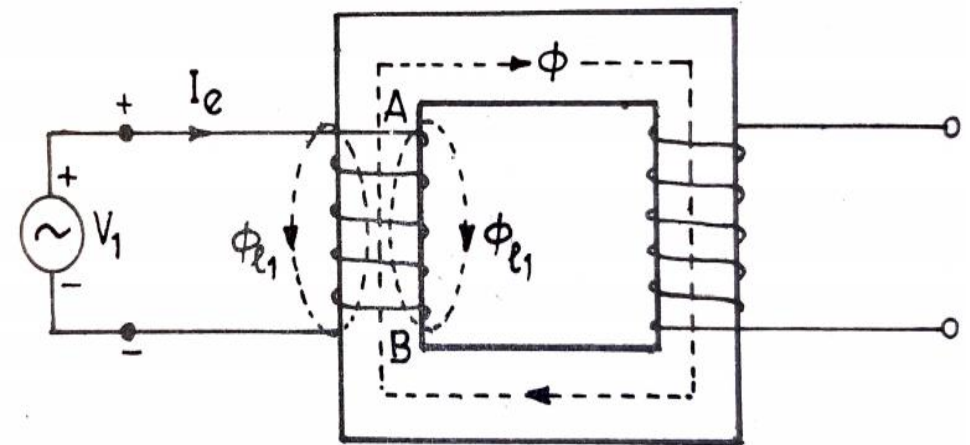

Fig. 8.12
- The point A is at a higher magnetic potential than point B in **Fig. 8.12** for the direction of current I_e in the primary.